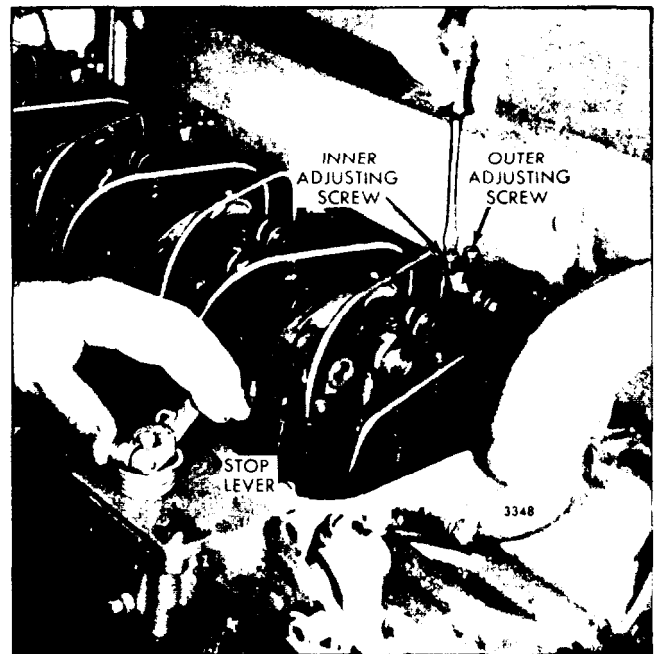

Fig. 2 - Positioning the Rear Injector Rack Control Lever
- 1. Loosen all of the inner and outer injector rack control lever adjusting screws (Fig. 2). Be sure all of the levers are free on the injector control tube.